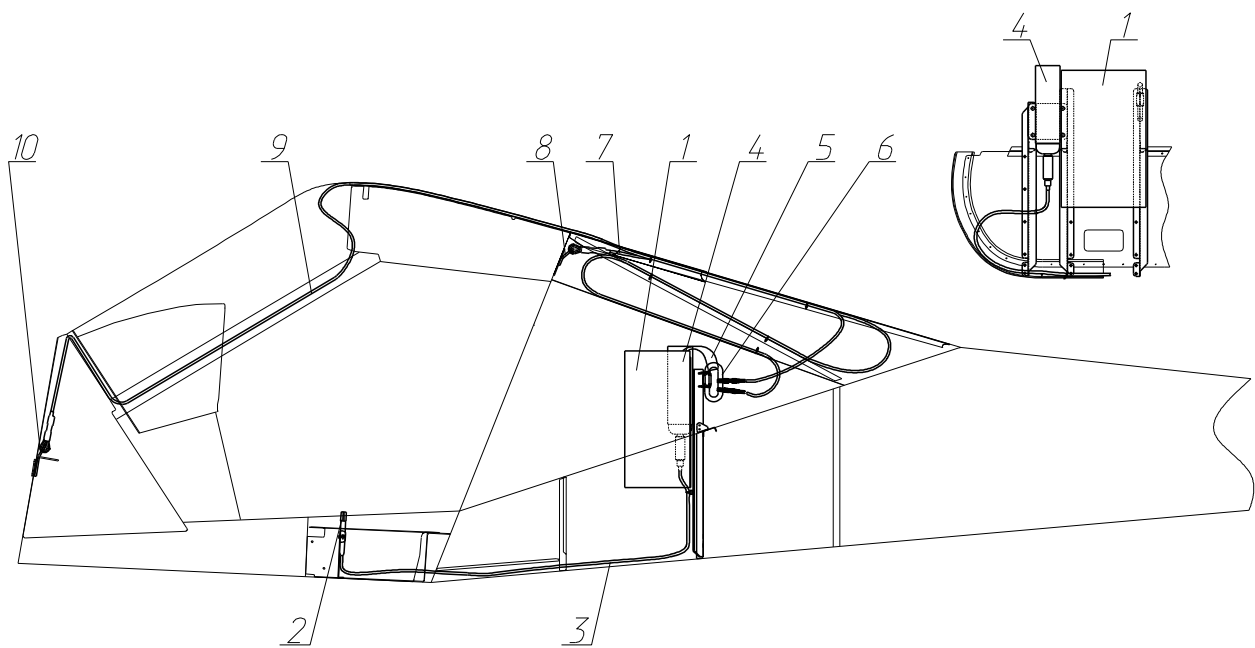

Fig. 30. Recovery system
Installation of the recovery system is shown on **Fig. 30**. The parachute packed into a soft container (1) is located behind the baggage compartment. To deploy the system pull the handle (2) of the ejection device connected with a cable (3) to the rocket housing (4). That launches the rocket which pulls out the parachute, attached with a rope (5) via a carabiner (6) to the cables (7) and (9) fastened to the attachment points (8) and (10). The locations of the attachment points and the cables' length are selected so that the aircraft when descending with deployed parachute is suspended in a certain attitude (wings level, nose lowered). Such attitude ensures a high level of safety to pilots during emergency landing despite the fact that the aircraft structure is likely to be damaged while absorbing the impact at touchdown.